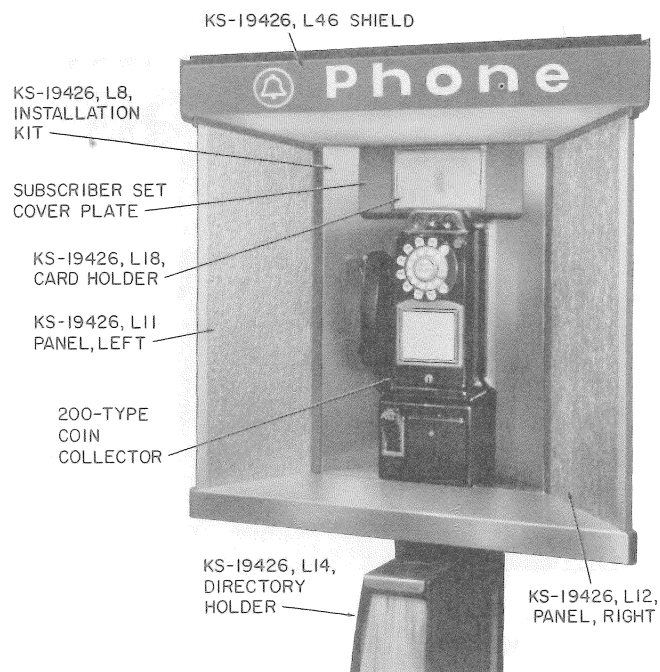

Fig. 11—KS-19426 Mounting Using 200-Type Coin Collector
2.18 The 200-type coin collector, plus 685-type subscriber set, also may be used with KS-19426 mounting but requires a List 8 installation kit. This kit consists of mounting screws, 685-type subscriber set adapter, left and right side shrouds, bottom plate, and subscriber set coverplate (Fig. 11).